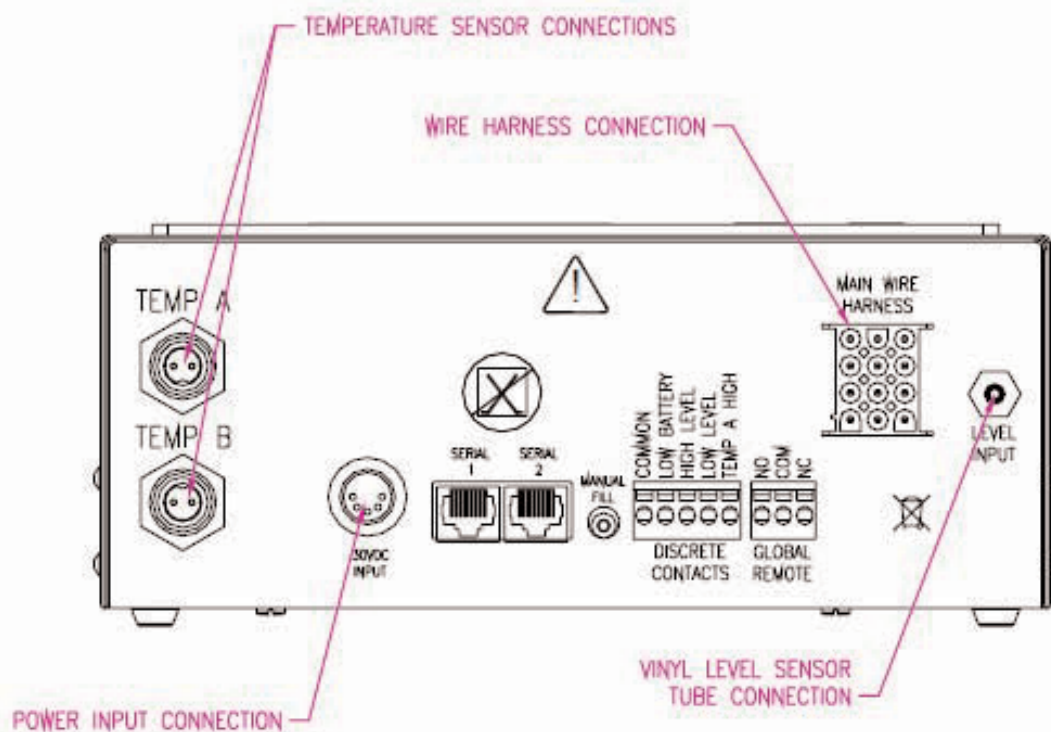
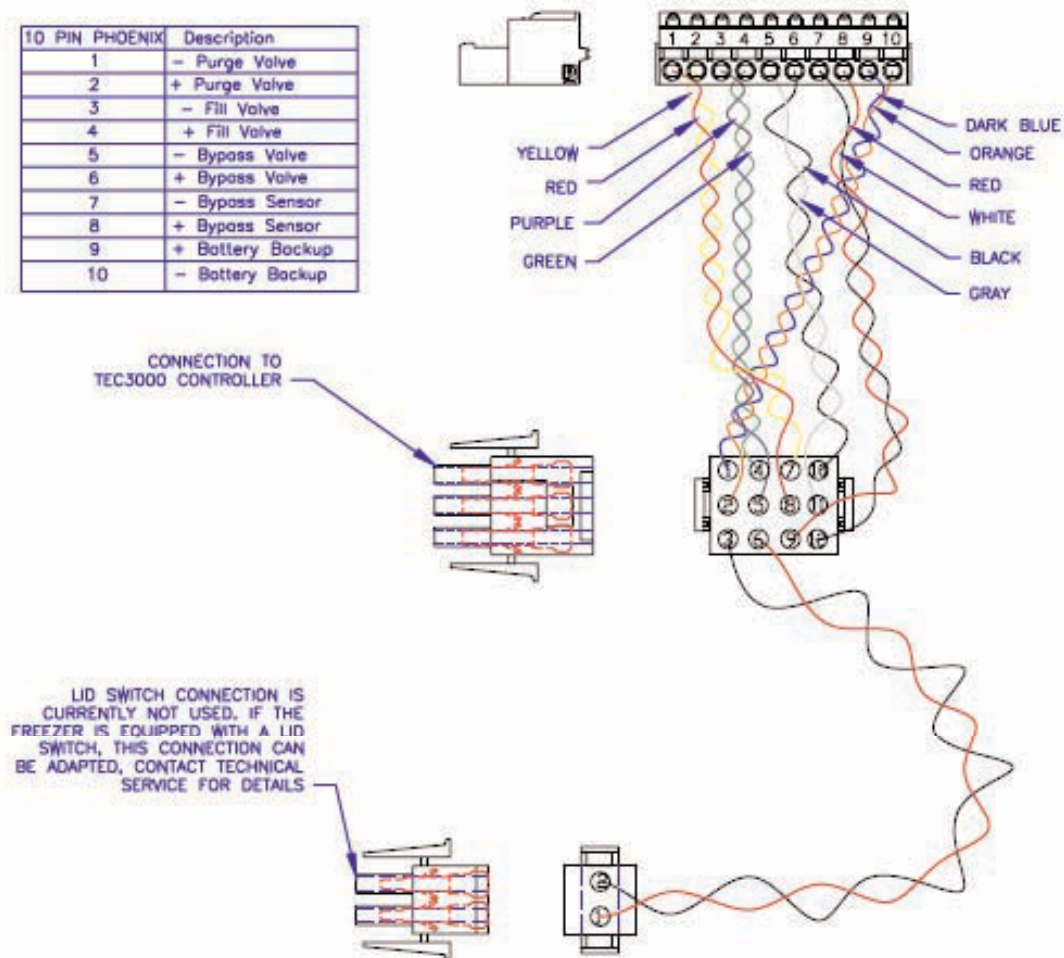

Figure 1, TEC3000 CONTROLLER CONNECTIONS
Figure 2, ADAPTER WIRING HARNESS.
8. Connect the new adapter harness to the base of the controller. Reference Figure 1 and Figure 2
- 9.1. Reference the pin configuration shown in the table of Figure 2, and make sure that the existing harness connector is plugged in correctly. The receptacle on the adapter harness is 10 pin to accept the existing 8 pin connector in addition to the 2 pin battery backup connector if so equipped. So be careful not to misalign the connections.
10. Connect the new temperature sensors to the base of the controller. Reference Figure 1
11. Connect the level sensor tube to the hose barb on the base of the new controller. Reference Figure 1
12. Connect the 30VDC input cable from the power supply to the receptacle on the base of the new controller. Reference Figure 1.